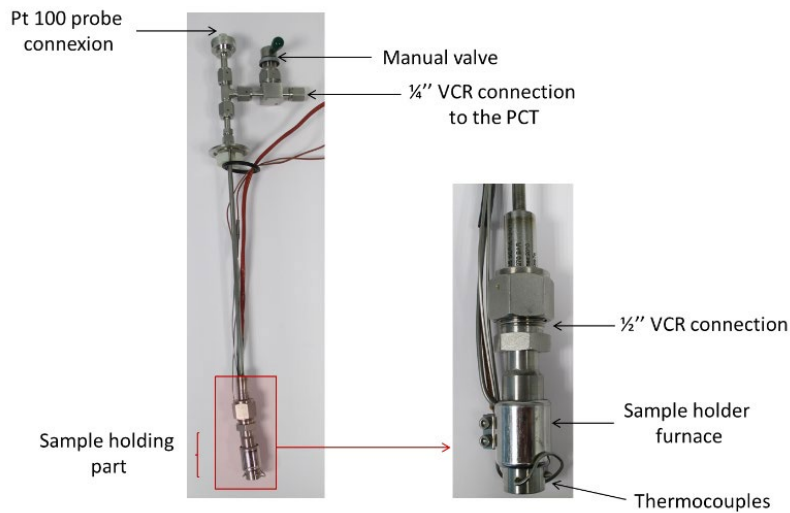

Figure 2 – CRYOPRO's sample holder
- A pressure resistant sample holder (Figure 2) is inserted into the cryostat. It is equipped with a manual valve (for airless sample transfer), a temperature probe (fixed thermocouple or Pt temperature probe) and a furnace that can be directly placed around the sample holder. For small samples or steady operations at liquid nitrogen or liquid helium's temperatures the evaporative temperature controller is sufficient for maintaining a steady temperature. To measure larger samples at temperatures above the cryogenic liquid temperatures, the sample holder's furnace is required.